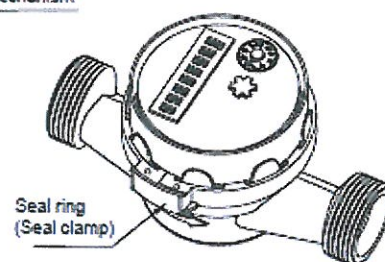

Figure 3
- The seal is locked by closing the ring (clamp). (Figure 3)